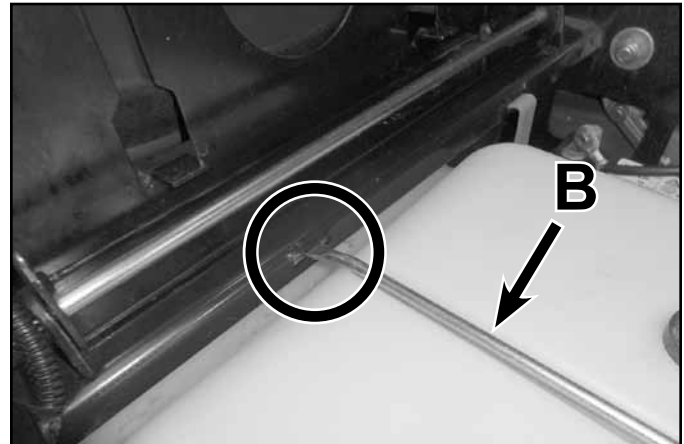

Fig. 015
2. Install the (2) bolts and nuts (C) that secure the seat support to the frame brackets and torque to specification – 17 ft-lbs. (23 Nm).
3. Install the fuel tank retaining rod (B) and torque retaining bolt to specification – 8 ft-lbs. (11 Nm). Be sure the front rod end is engaged into the control box assembly (Fig. 015).